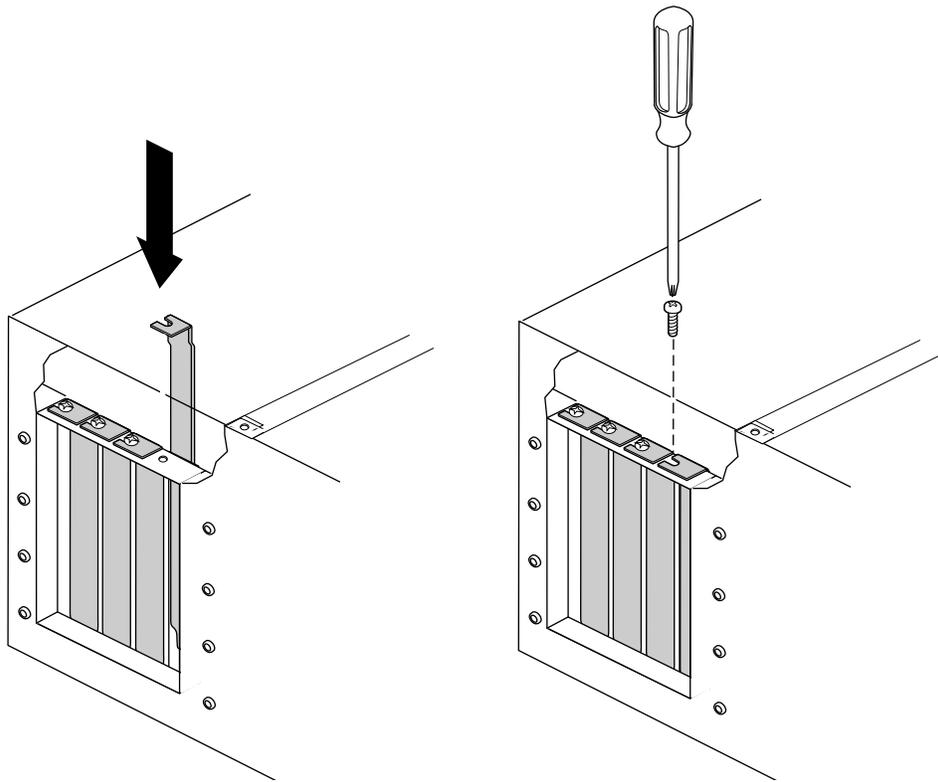

Figure 2-13 Replacing the PCI Blanking Plate in a GIGAchassis Expansion Cabinet
- Align the blanking plate and slide it in place, as shown in Figure 2-13.
- Attach the screw that secures the blanking plate to the GIGAchassis, as shown in Figure 2-13.